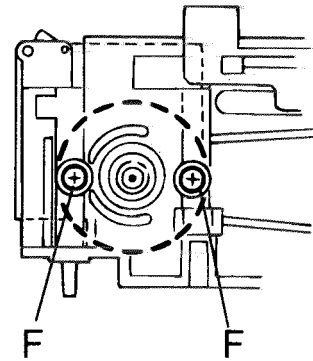

Fig. 4
■ **Detaching the capstan motor (Fig. 4)**
2. Remove the two screws (F) securing the capstan motor.